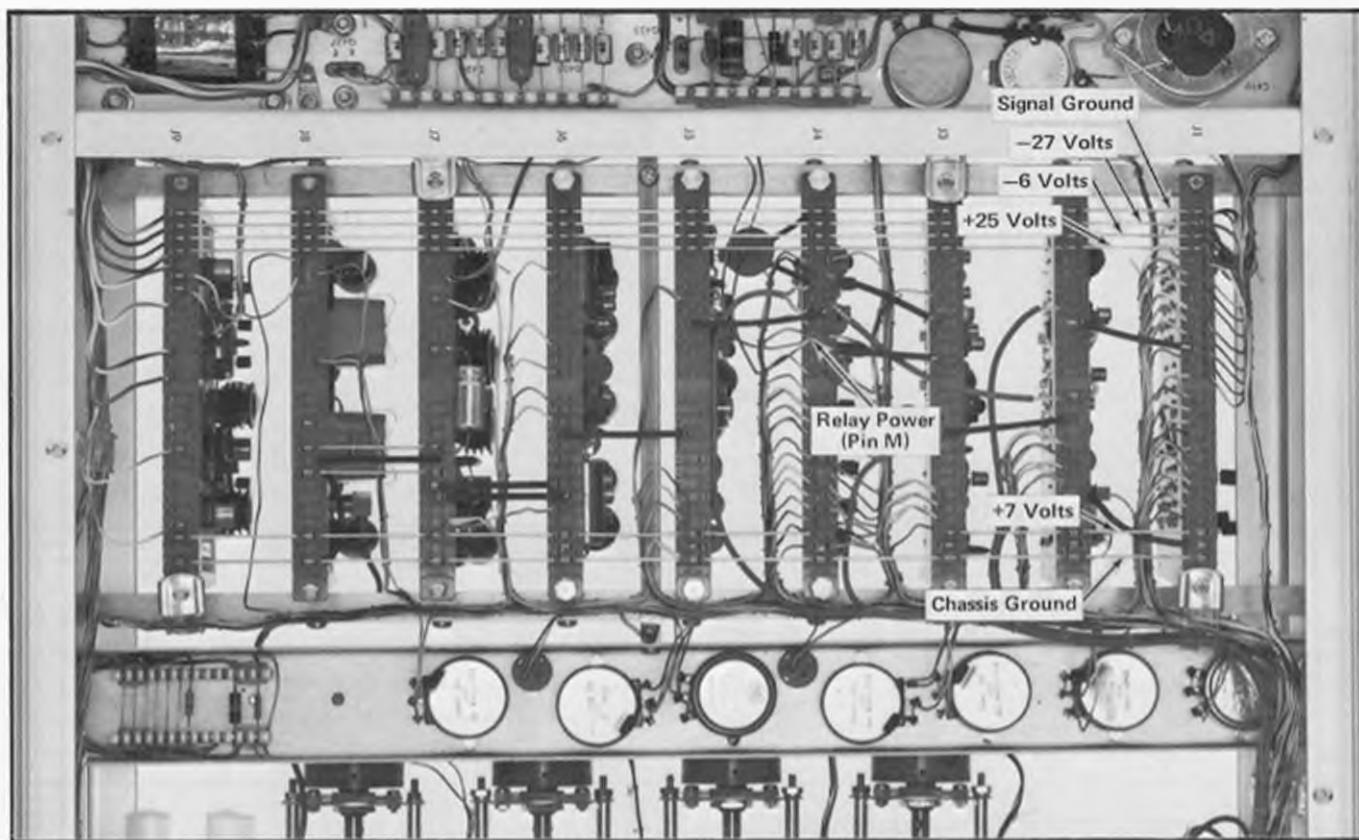

Fig. 6-3. Power supply test points.
b. Connect the negative lead of the DC voltmeter to the signal ground test point (see Fig. 6-3) and the positive lead to the +25-volt test point.
- a. Move the positive lead of the differential voltmeter to the +7-volt test point (see Fig. 6-3).
- d. Move the negative lead to the -27-volt test point (see Fig. 6-3).
- f. Move the negative lead to the -6-volt test point (see Fig. 6-3).
- h. Move the negative lead to the chassis ground test point (see Fig. 6-3).
- k. Leave the negative lead of the meter connected to the chassis ground test point and move the positive lead of the meter to the Relay-Power test point (see Fig. 6-3).
- b. Connect the Channel B 1× test probe to the signal ground test point (see Fig. 6-3).
- d. Connect the Channel A 1× test probe to each of the test points given in Table 6-2 and shown in Fig. 6-3.